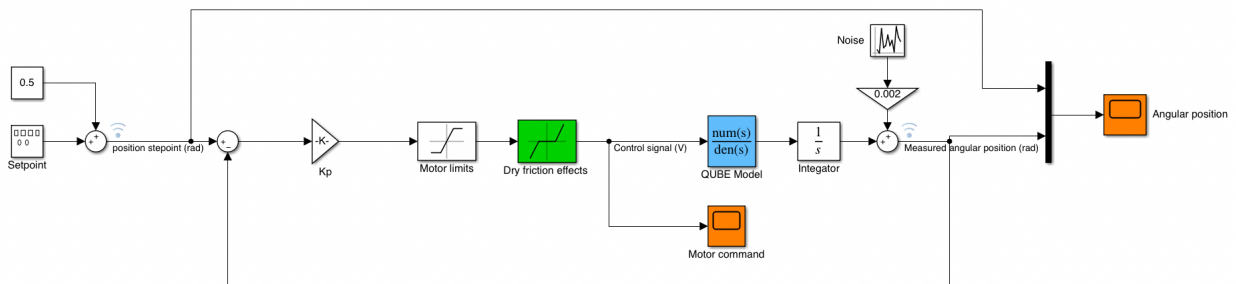

Figure 2.7: Higher-fidelity modelling of the DC motor including the dry friction effects
The nonlinear friction effects can be modelled by adding a **Dead zone block** just before the DC motor linear model as shown in Figure 2.7 where the Dead zone block appears in green. This nonlinear model will enable more accurate simulations of the system behavior and control over a wider range of operating points. We can therefore expect that the experimental results will be closer to the simulated ones with Simulink by using the higher-fidelity model.
4. Insert the Dead Zone block just before the *Qube model* block as shown in Figure 2.7.